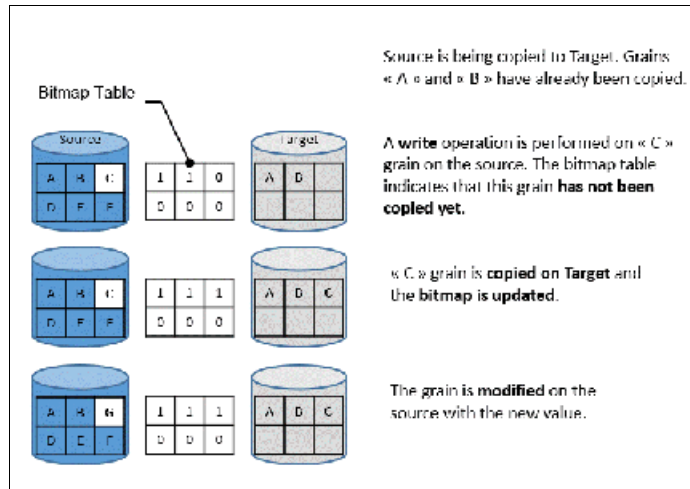

Figure 10-6 Modifying a non-copied grain on the source
- ▶ If the bitmap indicates that the grain is not yet copied, the grain is first copied to the target (CoW), the bitmap table is updated, and the grain is modified on the source, as shown in Figure 10-6. This process is true for standard pools in IBM Spectrum Virtualize V8.4 or later or any pool type if the version is lower than Version 8.4.